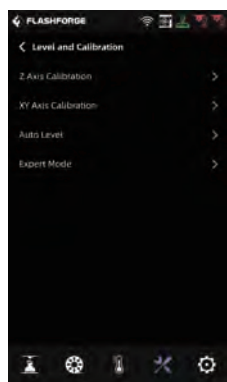
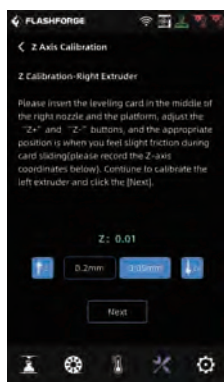
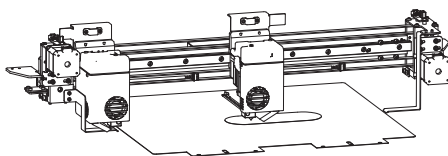
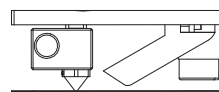

Figure 1
Figure 2
Figure 3
Figure 4
Step1: Perform the Z-axis calibration (figure1), determine the right extruder origin with a leveling card (the leveling card will have a certain resistance between the nozzle and the platform), then record the coordinate position (figure2), now the relative position between the nozzle and the platform is shown as below (figure3, figure4).